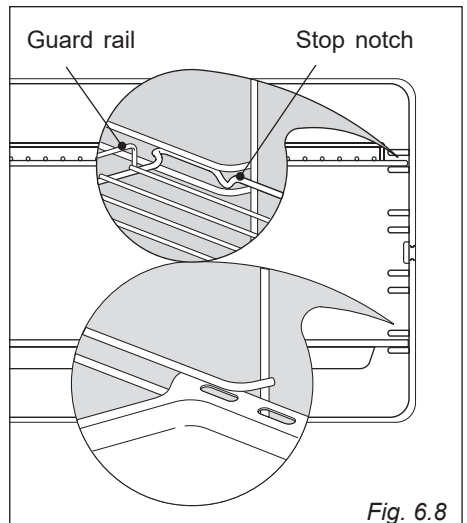

Fig. 6.8
It must be inserted operating as per figure 6.8.
- Slide in, on the guides, the shelf and the tray (fig. 6.8).